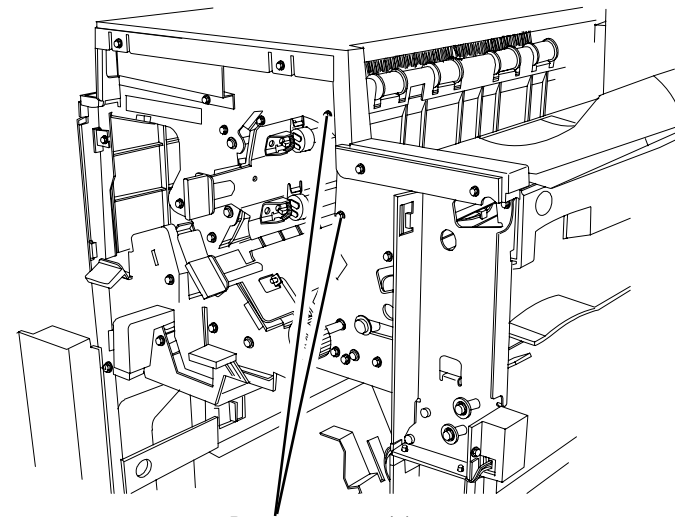

Figure 2 Removing screws on the front of the Finisher
7. Remove screws on the front of the Finisher (Figure 2).